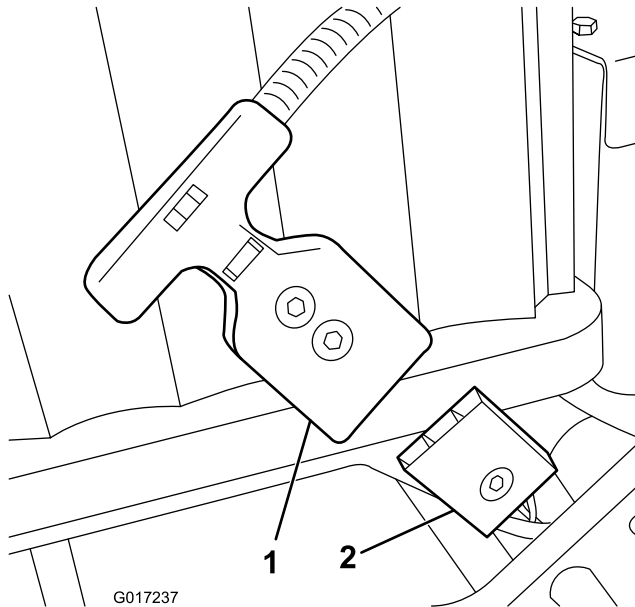

Figure 14
6. Connect the eFlex T-handle to the battery pack connector (Figure 14)